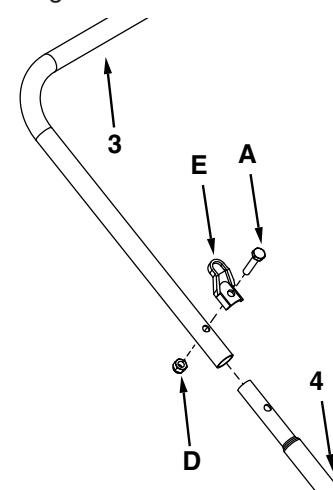

Figure 3
STEP 3: (SEE FIGURE 3)
- Assemble the upper handle tube (3) onto the handle leg stand tubes (4).
- Align holes in the handle and assemble the bag rod clips (E) to the handle and fasten with 1/4" x 1-1/4" hex bolts (A) and 1/4-20 nylock nuts (D).